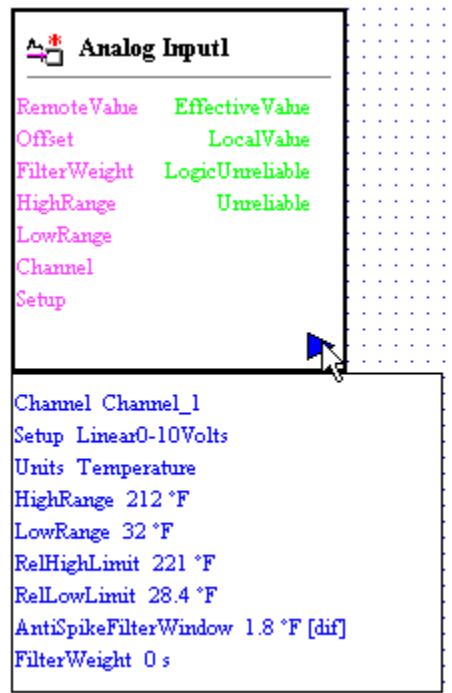

Figure 61: Editing Object Attributes
4. In the FX Builder Application Editor, click on the blue, right-facing arrow at the bottom of the object icon. An attribute editor window appears below the object block (Figure 61).